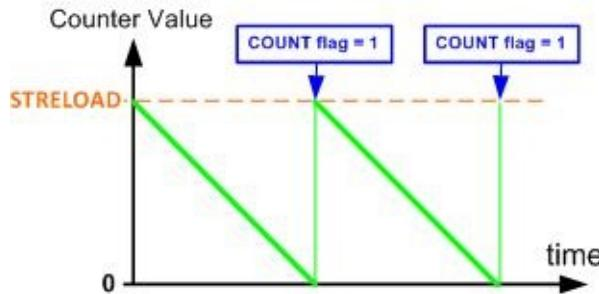

Figure 5-9: System Tick Counting
**COUNT (D16):** Counter counts down from the initial value and when it reaches 0, in the next clock it underflows and the COUNT flag is set high. See Figure 5-9. The flag remains high until it is cleared by software. The flag can be cleared by reading the STCTRL register or writing to the CTCURRENT register.